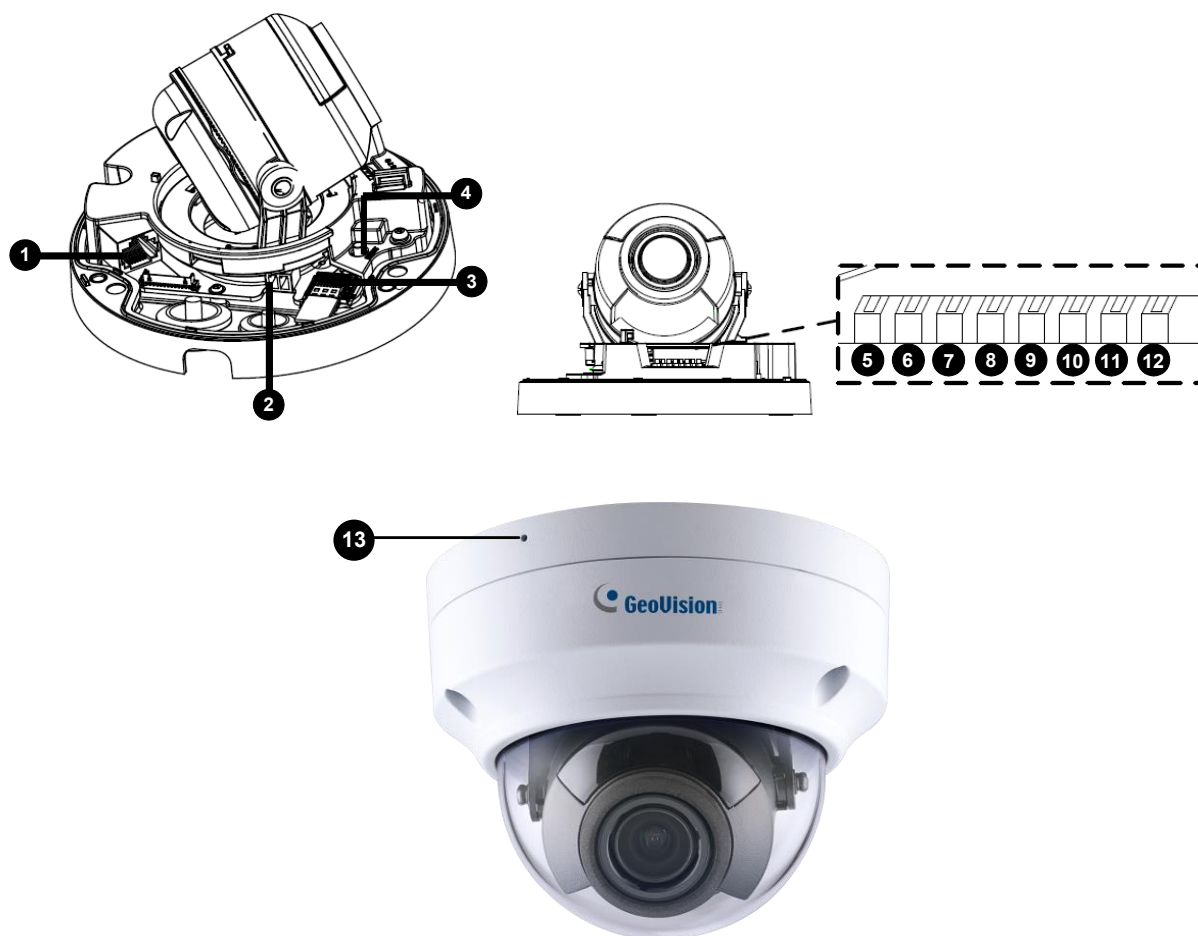

Figure 1-95
- Plug the power adapter to the supplied 2-pin terminal block by inserting the striped wire to the right pin (-) and the black wire to the left pin (+), then insert the 2-pin terminal block to *Power Connector, No. 2 in Figure 1-95*.